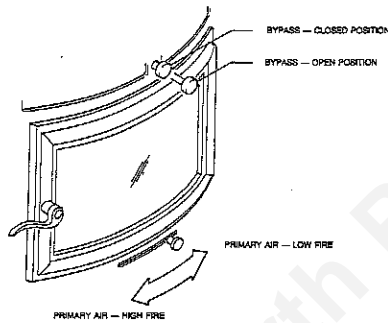

Figure 7
1. Move the primary air adjustment slide to 'high' setting, see Fig. 7. Pull bypass damper rod out to fully open position.
1. The temperature in the room and the rate at which wood is burned can be controlled by adjusting the primary air slide, Fig. 7.